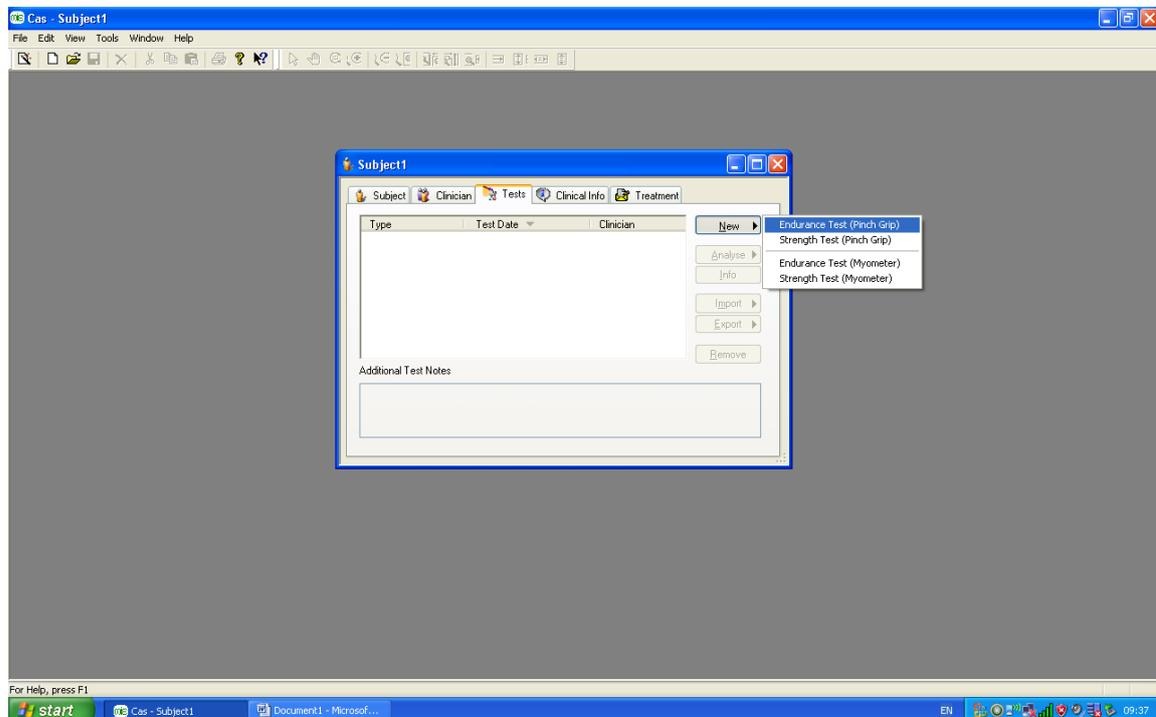

Figure 4.
13. To begin the test select the "tests" tab. The 2 tests applicable to this equipment are "Endurance Test (Pinch Grip)" and "Strength Test (Pinch Grip)" (figure 4).